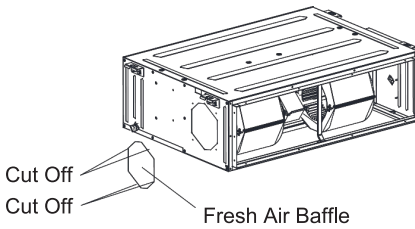

Fig 4.4.8
1. When the fresh air pipe is needed to be connected, cut the fresh air baffle as Fig 4.4.8. Plug up the gap of the fresh air baffle by a sponge if the fresh air duct is not be used.